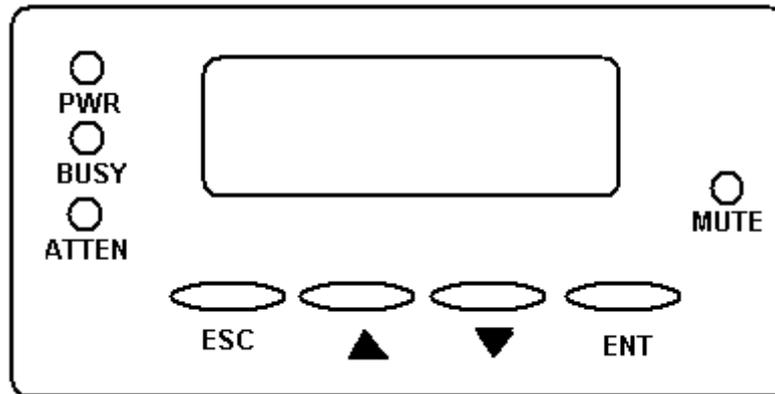

Figure 3-3: LCD Panel LEDs
The front panel LCD panel comes with three (3) status-indicating LEDs. The LEDs on the front panel are marked, from top to bottom, **PWR**, **BUSY**, and **ATTEN**, as shown in *Figure 3-3* below. The definitions of these LEDs are shown in *Table 3-2*.